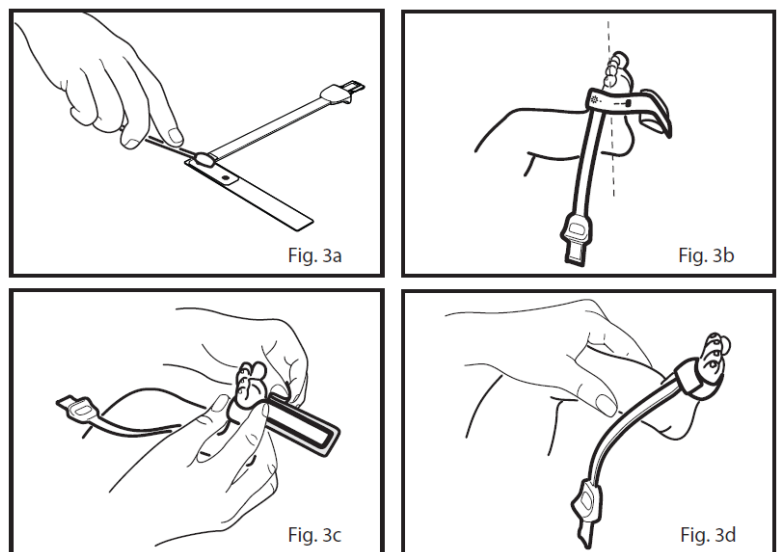

Fig. 21 RD SET Sensor Application for Neonates and Preterms
- 2 See Fig. 3a in Fig. 21: For fragile skin, the stickiness of the medical grade adhesive can be diminished or eliminated by daubing the adhesive areas with a cotton ball or gauze.
- 3 See Fig. 3b in Fig. 21: Direct the sensor cable toward the ankle (or wrist).
- 5 See Fig. 3c in Fig. 21: Wrap the adhesive/foam wrap around the lateral aspect of the foot (or hand) and ensure that the emitter window (red star) aligns directly opposite the detector. Be careful to maintain proper alignment of the detector and emitter windows while attaching adhesive/foam wrap to secure the sensor.
- 6 See Fig. 3d in Fig. 21: Verify correct positioning.